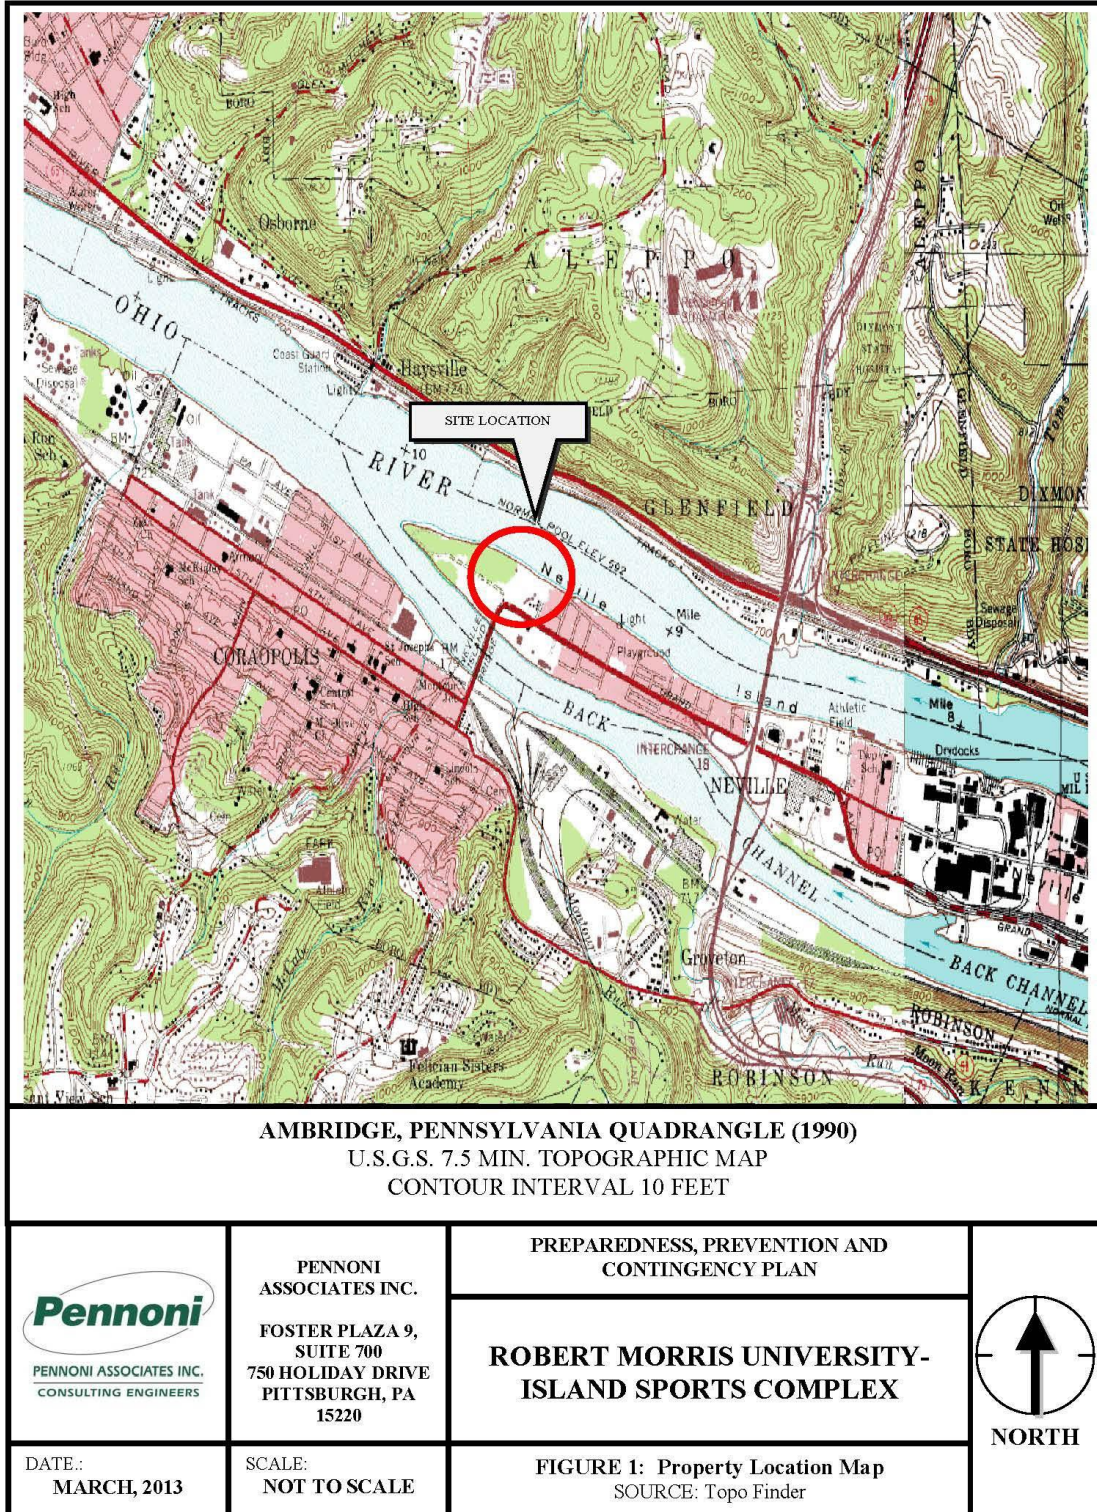
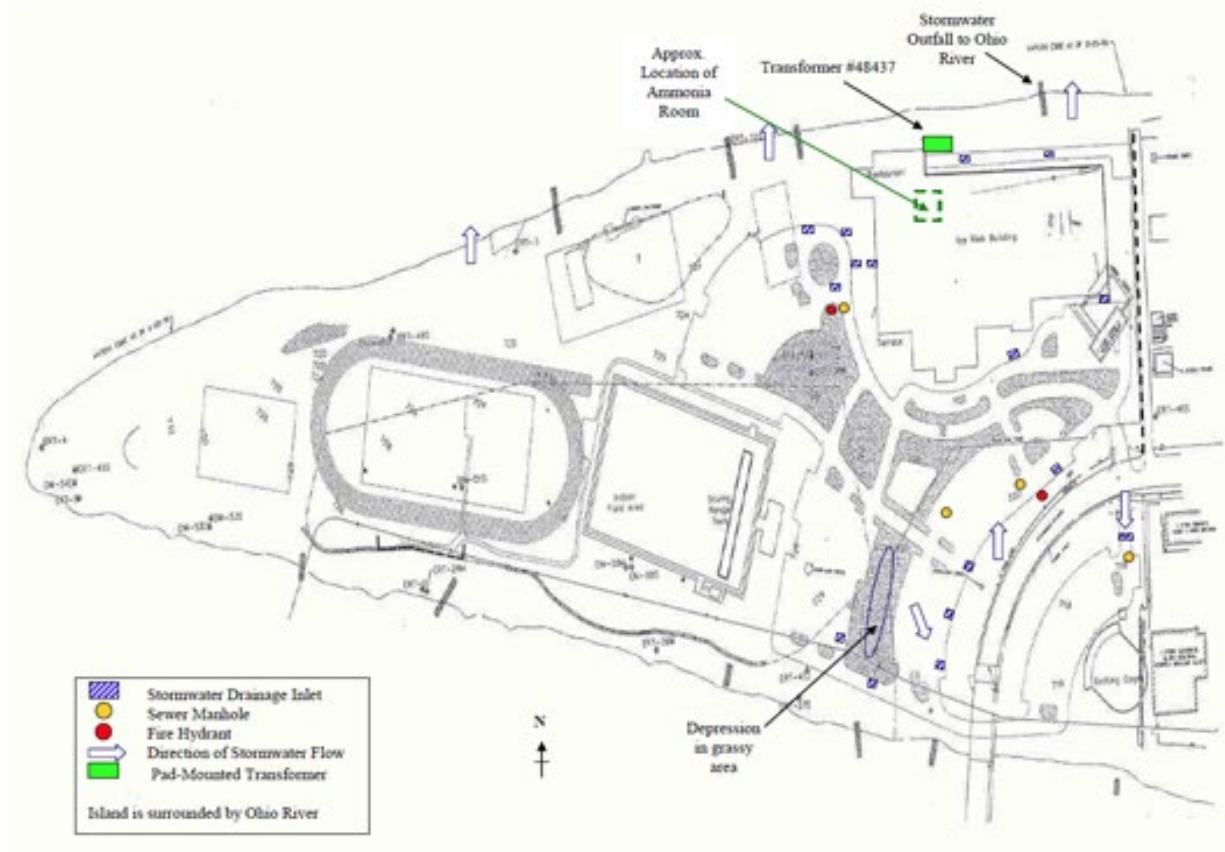
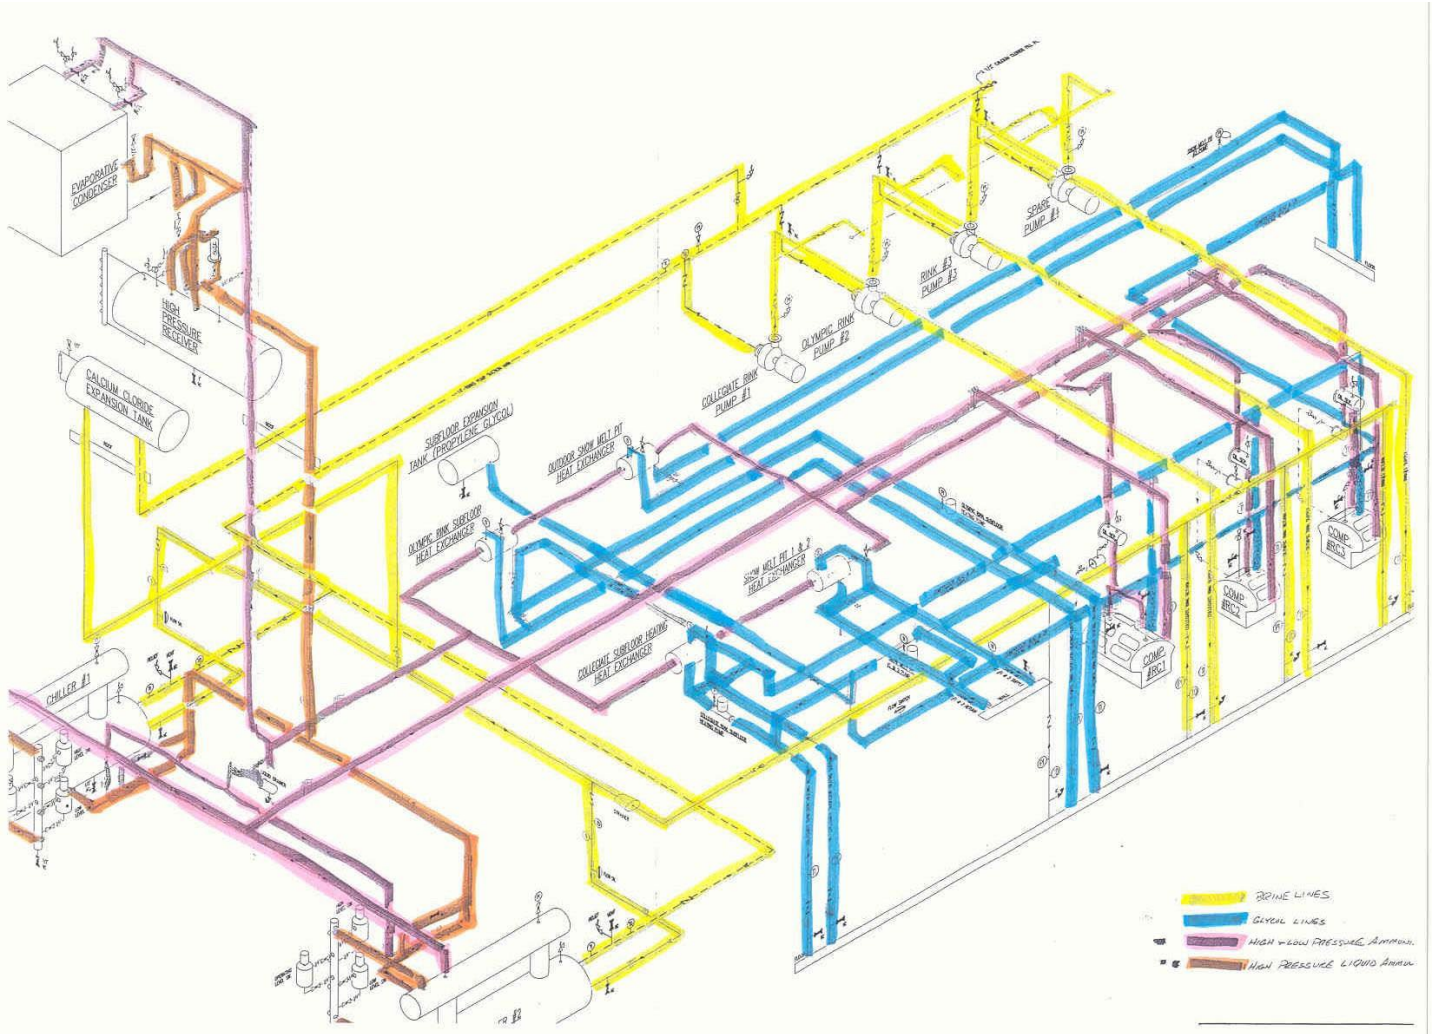

Figure 1 – Site Location Map
Figure 2 – Facility Layout and Site Drainage Map
Figure 3 – Ammonia Refrigeration System Diagram
- Figure 1 – Site Location Map
- Figure 2 – Facility Layout and Site Drainage Map
- Figure 3 – Ammonia Refrigeration System Diagram
This Preparedness, Prevention and Contingency (PPC) Plan has been prepared to help prevent emergencies and accidents and to provide effective and efficient response to emergencies and accidents that may occur at Robert Morris University (RMU) Island Sports Center, located at **7600 Grand Avenue, Pittsburgh, Allegheny County, Pennsylvania**. See Figure 1 for a Site Location Map. The objective of the PPC Plan is to reduce the potential impact of spills, releases, accidents, and other emergencies on public health, occupational safety, and the environment.
The RMU Island Sports Center is located on Neville Island in Neville Township, Allegheny County, Pennsylvania (see Figure 1). The Sports Center consists of a Main Ice Center with multi-purpose rinks, miniature golf, a sports dome, and paved parking areas. No manufacturing processes are conducted at this site.
The Ohio River borders the north end of the facility as shown on Figure 1. Figure 2 – Facility Layout and Site Drainage Map provides a layout of the RMU Island Sports Center. Figure 3 – Ammonia Refrigeration System Diagram provides a layout and flow diagram of the refrigeration system for the multiple ice rinks.
Table 2 includes an inventory of materials found at this facility. The location of these materials and wastes are shown on Figure 2. Safety Data Sheets (SDS) are maintained by the associated departments and are available via the RMU Safety Services website ([Safety Services | Robert Morris University \(rmu.edu\)](https://www.rmu.edu/safety-services)) including the SDS for ammonia.
The Main Ice Complex contains a closed ammonia refrigeration system containing 6,566 pounds of ammonia as shown on Figure 3 – Ammonia Refrigeration System Diagram. Because the ammonia system contains less than 10,000 pounds of ammonia, the facility is not subject to the Occupational Safety and Health Administration (OSHA) Process Safety Management Standard, nor the EPA Risk Management Planning Regulation. The following summarizes the standard setup and maintenance of the ammonia system: